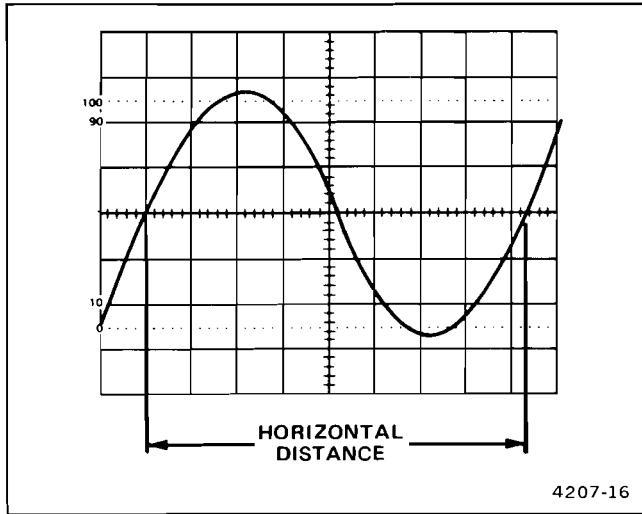

Figure 2-14. Time duration.
- Position the display to place the time-measurement points on the center horizontal graticule line (see Figure 2-14).